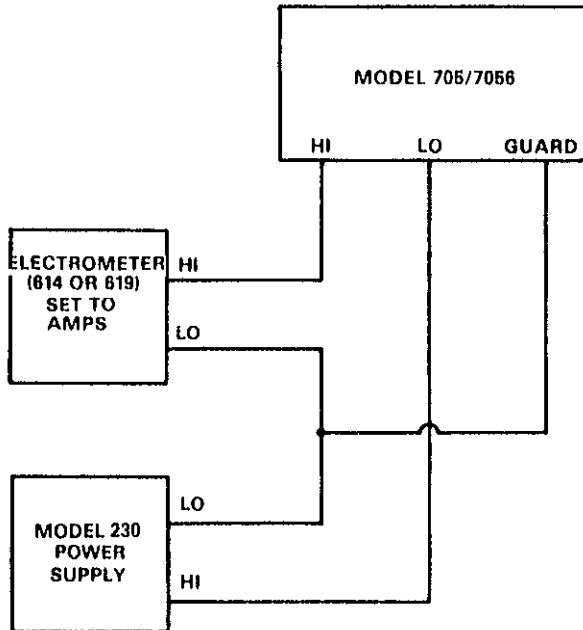

Figure 7. Differential Input Isolation (Guarded) Test Set Up
- A. This test measures the differential input isolation which is the leakage resistance between a guarded channel HI and LO. Set up the test circuit shown in Figure 7.